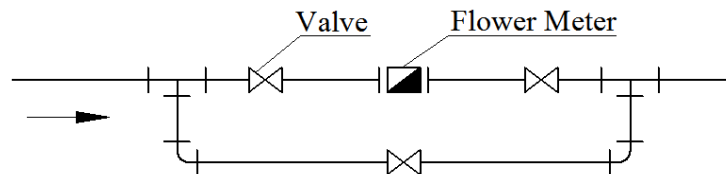

Fig.5 Recommended Installation Arrangement 2
(4) During Flow Meter maintenance, to avoid flow interruption within the pipeline, additional by-pass pipe is needed (see Fig.5). To secure no flow measuring may be affected, to equip the pipeline with two Flow Meters installed in parallel for alternative operation without by-pass pipe is also a good suggestion.